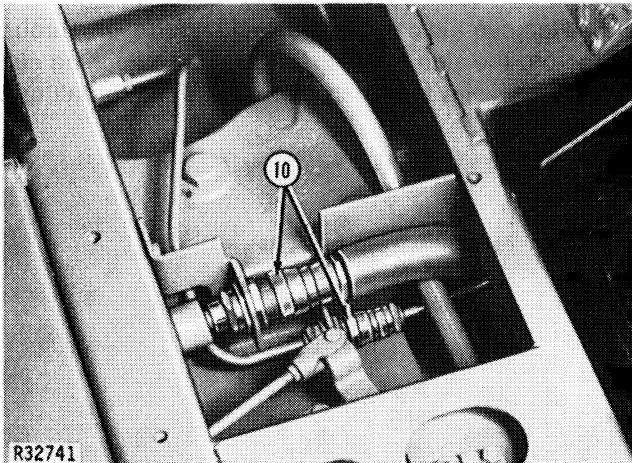

Fig. 20—Air Conditioning Couplings
10. Disconnect the air conditioning lines at couplings (Fig. 20).